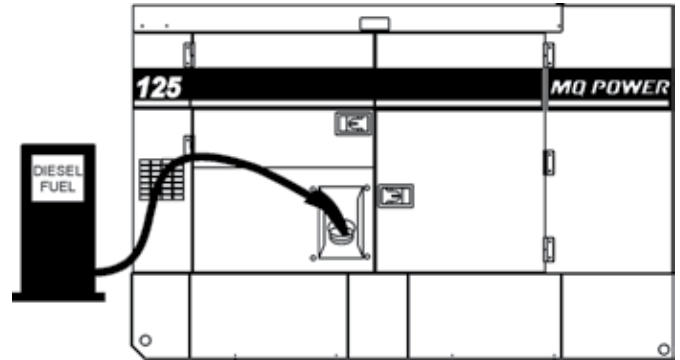

Figure 31. Fueling the Generator
2. Remove fuel cap (internal fuel tank) and fill tank as shown in (Figure 31).